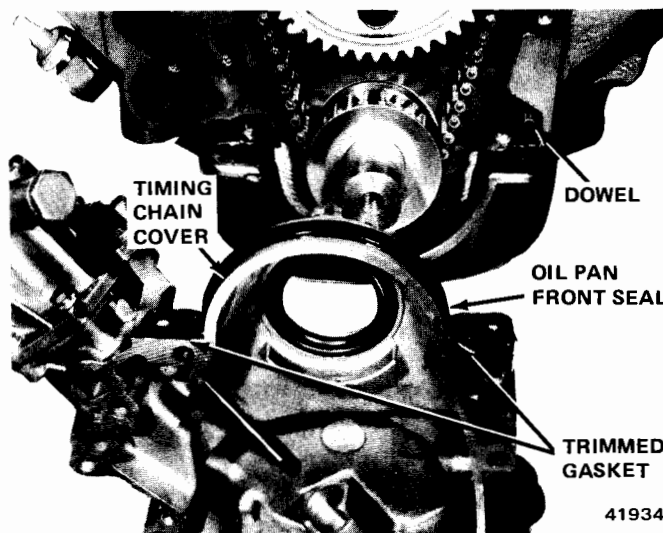

Fig. 1B-21 Oil Pan Front Seal Installation
- (2) Use a sharp knife or razor blade to cut both sides of oil pan gasket flush with engine block.
- (3) Using old gasket as a guide, trim a new gasket to correspond to the amount cut off at oil pan (fig. 1B-21).
- (4) Apply sealer to both sides of new gasket and install gasket on timing case cover.
- (5) Install new front oil pan seal.
- (6) Align tongues of new oil pan gasket pieces with oil pan seal and cement into place on cover (fig. 1B-21).
- (7) Apply a bead of Jeep Gasket-in-a-Tube (RTV silicone), or equivalent, to cutoff edges of original oil pan gaskets.
- (8) Place timing case cover into position and install front oil pan bolts.
- (9) Tighten bolts slowly and evenly until cover aligns with upper locating dowel.
- (10) Install lower dowel through cover and drive into corresponding hole in engine block.
- (11) Install cover retaining bolts in the same location as removed. Tighten to 25 foot-pounds torque.
- (12) Install vibration damper. Tighten retaining bolt to 55 foot-pounds torque.
- (13) Install damper pulley and retaining bolts.
- (14) Install fuel pump.
- (15) Install distributor with the rotor and housing in the same position as it was prior to removal.
- (16) Install distributor cap and connect heater hose.